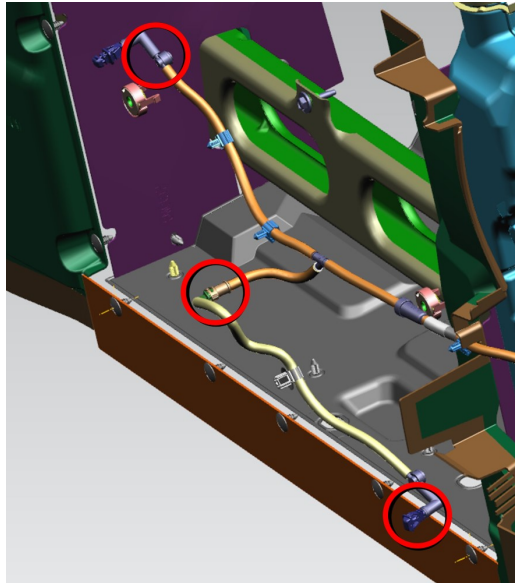
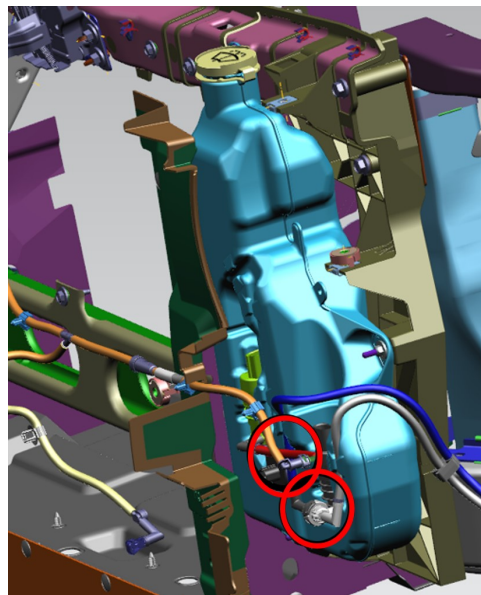

Fig. 4
Fig. 5
11. **Front Of Vehicle Leaks (Fig. 4) and (Fig. 5)** . Remove the front fascia. Refer to the detailed service procedures available in DealerCONNECT> Service Library under: Service Info>13 - Frame and Bumpers / Bumpers / Fascia, Front / Removal.
12. Verify all three connections (Fig. 4) with a push-pull-push test and confirm connections are tight.
13. Verify the two connections at the washer bottle (Fig. 5) with a push-pull-push test and confirm both connections are tight.